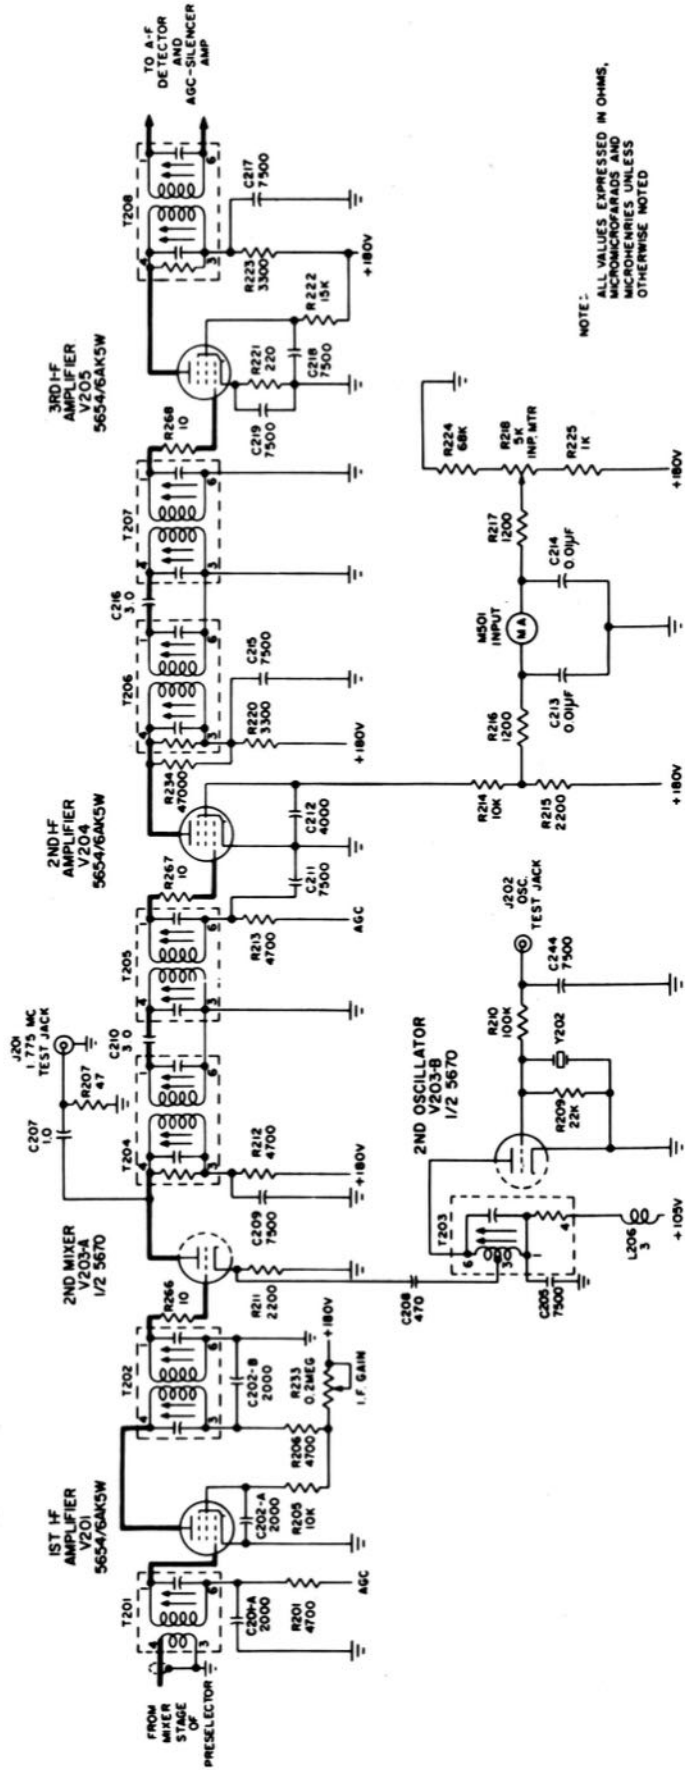

Figure 2-7. I-F Amplifiers and INPUT Meter Circuit, Simplified Schematic Diagram
(1) **FIRST INTERMEDIATE-FREQUENCY AMPLIFIER.**—The i-f signal from the mixer stage of the r-f amplifier section is link-coupled into transformer T201. This transformer, tuned to resonance at 18.6 mc, feeds the grid of the first i-f amplifier, V201; see figure 2-7. The first i-f amplifier is a 5654/6AK5W pentode. AGC voltage is applied through resistor R201 and the transformer to the grid of the i-f amplifier. The AGC system is decoupled from the i-f signal by
(2). **SECOND OSCILLATOR.**—Triode V203B, one half of a type 5670 tube, is used as a crystal-controlled oscillator in order to create a heterodyning signal for the second of the two frequency conversions in this radio set; see figure 2-7. The crystal, Y202, is a type CR-23/U, cut to have a nominal frequency of 16.8250 mc. Grid-leak bias is supplied for the oscillator tube by resistor R209, connected from the control grid to ground and in parallel with the oscillator crystal. Plate voltage for the stage is supplied from the +105 volt source to the plate through oscillator transformer T203. The output signal is applied to the mixer stage from a tap on the transformer coil. The oscillator may be tested by measuring the grid voltage developed across resistor R209 at test point J202. This test point is connected to the common junction of the grid, the grid-biasing resistor, and the crystal, through resistor R210. Resistor R210 and capacitor C244 form a low-pass filter, which isolates the grid circuit from the meter used to measure the grid bias. The sine-wave signal applied to the grid by the oscillator crystal is amplified in the tube and applied to transformer T203. A portion of the signal is applied from a tap on the transformer winding (for impedance matching) to capacitor C208, and from this capacitor to the cathode of the second mixer.
(3) **SECOND MIXER.**—The second mixer, V203A, is one half of a 5670 twin-triode tube, as shown in figure 2-7. The i-f input signal is applied through the secondary winding of i-f transformer T202 to the control grid of the mixer, and the oscillator injection voltage is applied to the cathode. Resistor R266, in the grid circuit, tends to prevent spurious oscillation, while cathode resistor R211 serves as the point of oscillator injection. Plate voltage is supplied to this stage through resistor R212 and i-f transformer T204.
(4) **SECOND AND THIRD INTERMEDIATE-FREQUENCY AMPLIFIERS.**—The components and circuitry of the second and third i-f amplifier stages are almost identical; see figure 2-7. The essential difference between the two i-f amplifier stages is that the gain of the second i-f amplifier stage is controlled by the AGC voltage, while the third i-f amplifier stage is self-biased.
lator-multiplier section when switch S201 is placed in the ALIGN position. The meter circuit is shown in figure 2-7. One side of meter M501 is connected through a low-pass filter, consisting of resistor R216 and capacitor C213, to the junction of resistors R214 and R215 in the screen-grid circuit of the second i-f amplifier, V204. The other side of the meter is connected through a similar filter (R217 and C214) to the variable contact of INP. MTR. potentiometer R218. Potentiometer R218, together with resistors R224 and R225, form a series voltage divider network from +180 and ground.